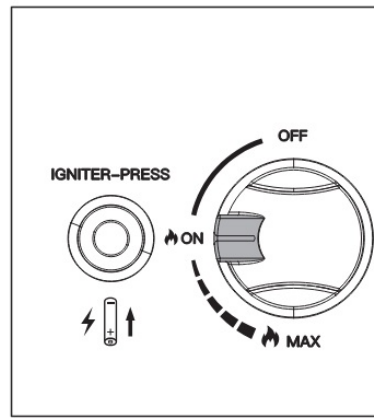

Figure 2
4. Push in the control knob and turn it counterclockwise to the "ON" position (Figure 2). Hold it in the "ON" position for about 3-5 seconds, then let it go.